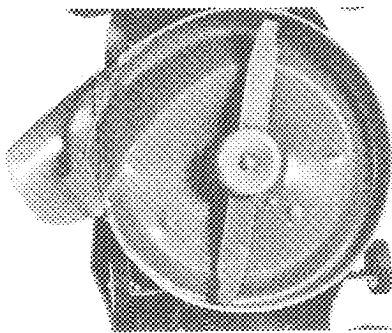

Figure 29
6. Remove grass clippings and dirt that is sticking to inside of housing (Fig. 29) by spraying with a garden hose. Scrape out grass and dirt that water does not remove from housing; then spray housing again.
7. Since rider is tipped on end, check condition of blade (Fig. 29).